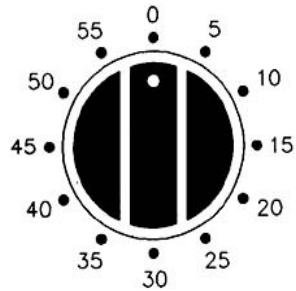

Fig. 3
**Programming your oven with mechanical 60 minutes timer - Fig. 3**
The regulating knob (Fig. 3) must be turned in a clockwise direction until it reaches the 60 minutes position and then turned to the desired time by turning the knob in a counter clockwise direction.